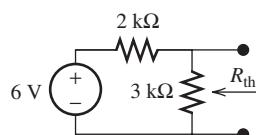

FIGURE P3.52 Circuit for Problem 3.52.
- 3.52 (B)** Find R_{th} in Figure P3.52: